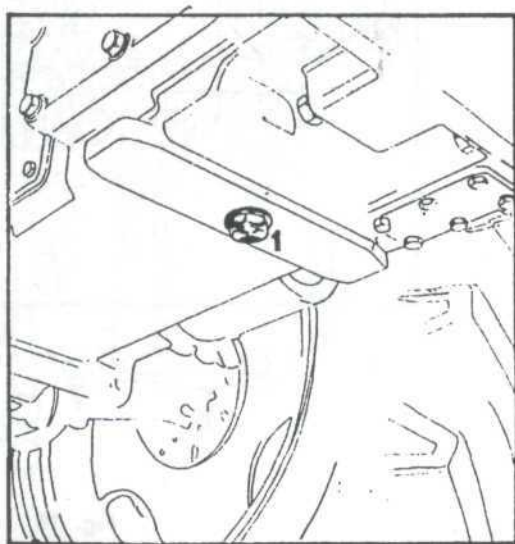

Fig. 17
- Main transmission housing and gearbox oil drain plug (Fig. 17/1)